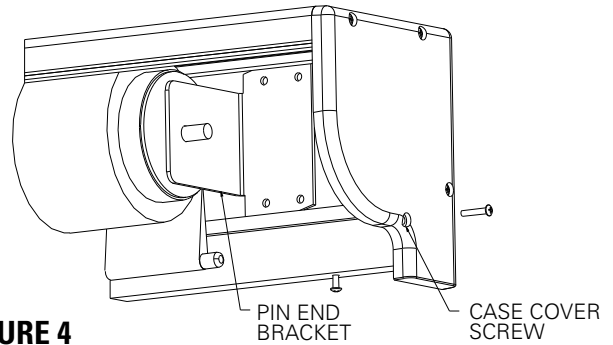

FIGURE 4
1. Remove the case cover screw from both ends of the screen. See figure 4. Be sure to hold the cover while removing the screws.
Remove the case cover screw from both ends of the screen. See figure 4. Be sure to hold the cover while removing the screws.